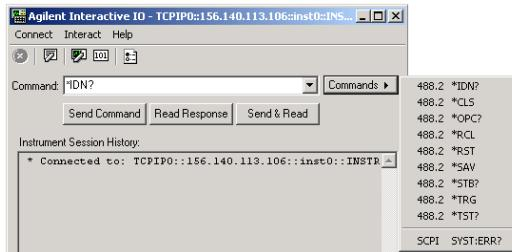

Figure 12 Common 488.2 and SCPI Commands in Interactive IO
- 1 Select the E5818 in the explorer view. Click Tools > Interactive IO. Interactive IO gives you a number of common IEEE 488.2 and SCPI commands for communicating with instruments, as shown in Figure 12 below: